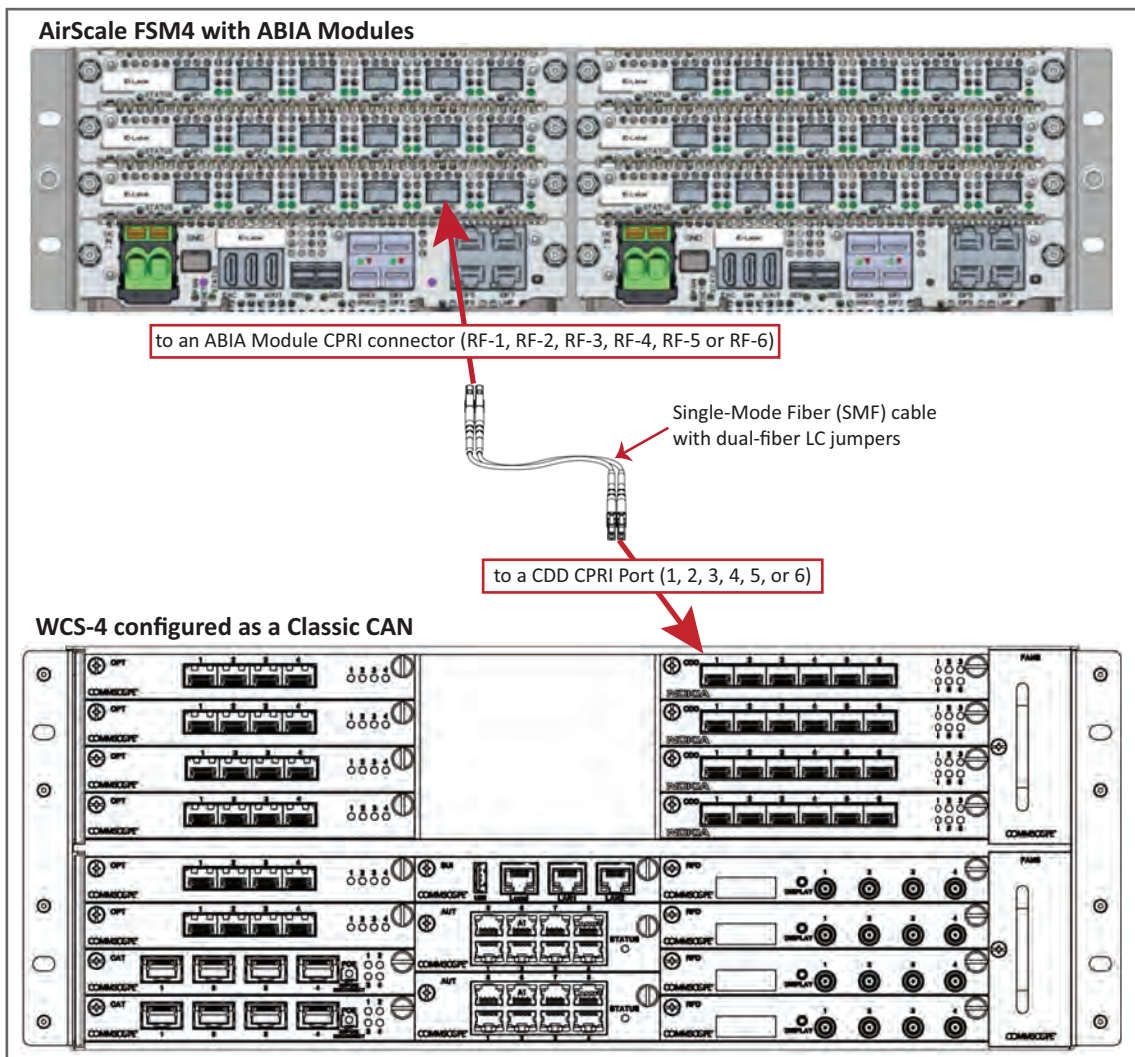

Figure 14. CDD Card in a Classic CAN Connecting to a BBU
- For Classic CAN installations, see Figure 14 on page 76